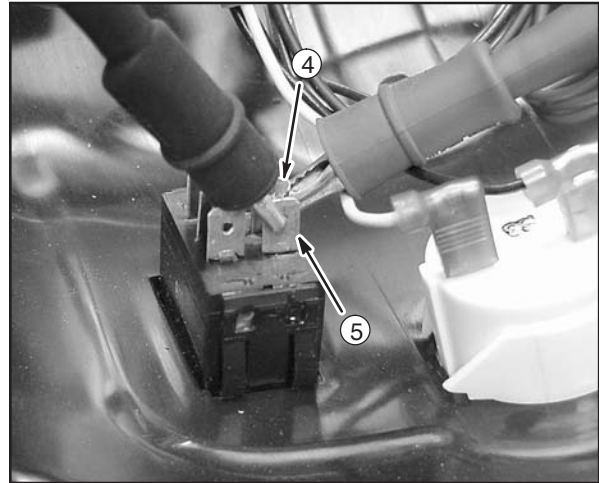

Fig. 30
11. Now move and attach test lead to other center terminal (4) on switch (double black wire). Leave attached through remainder of test.
12. Attach other test lead to bottom terminal (5) on switch (green wire), Fig. 30.